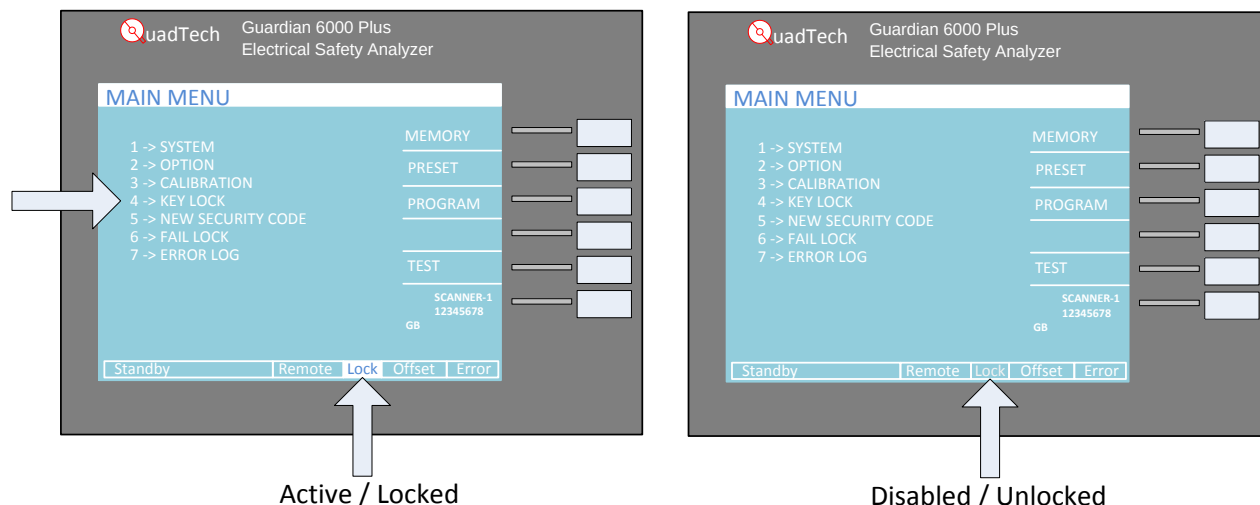

Figure 11: QuadTech Guardian 6000 Plus / Chroma 19032 Key Lock indicator and menu choice
- 5.1.1. Look at the analyzers front panel to see if Key Lock is locked by observing '**Lock**' on the bottom of the display is in reverse text (see Figure 11 left). If Key Lock is locked go to step 5.1.2 to unlock it, if not continue to step 5.2.
- 5.1.2. From the Main menu (Figure 11), press the **4** key.